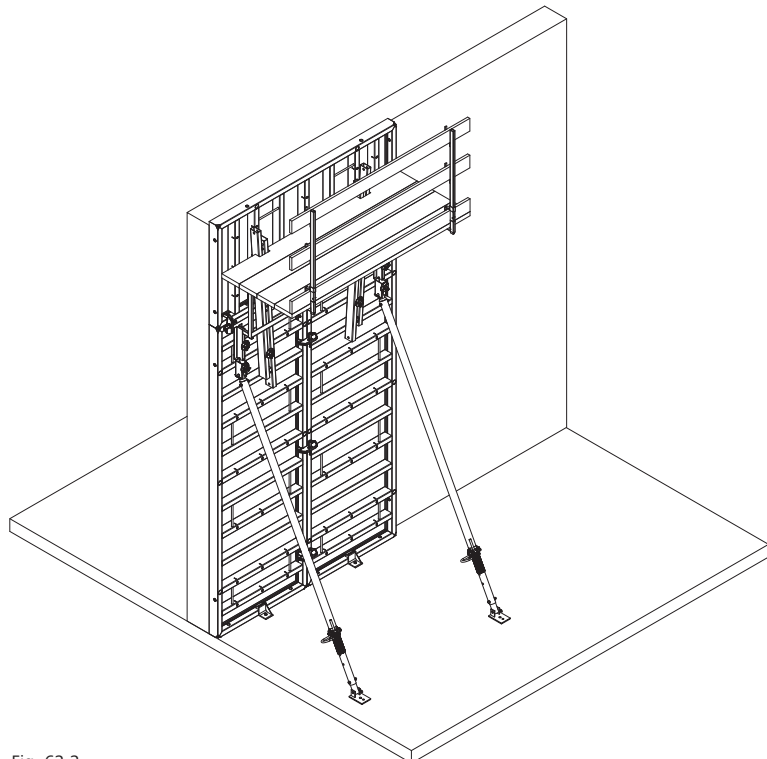

Fig. 62.2
6. Proceed with stripping the remaining gangs (Fig. 62.2).